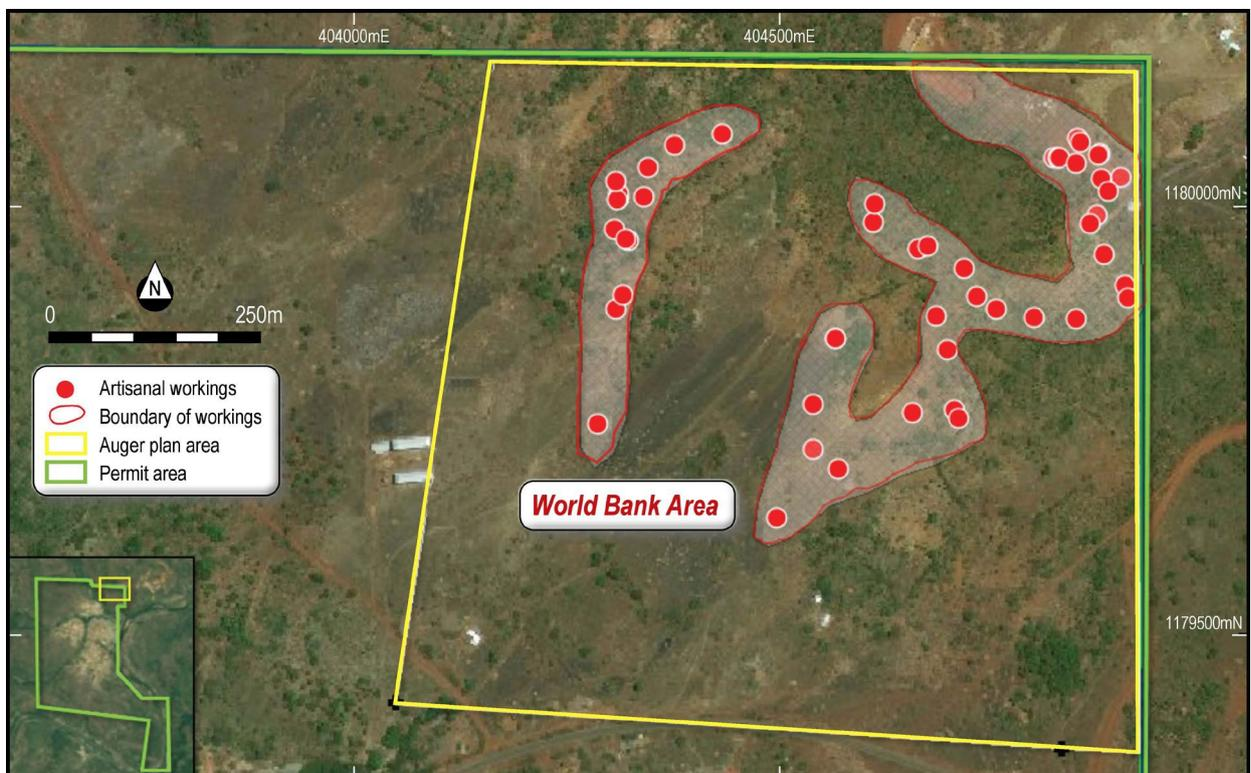

Figure 3. Location of identified artisanal workings on the Kouroussa permit.
The photos below are of artisanal workings and Figure 3 below shows the location of identified artisanal workings on the Kouroussa Permit.
**Kouroussa Permit.** Sahara and Volt teams will continue collecting grab samples in the artisanal workings area known as the “World Bank”. Following sampling and assay, an auger drilling geochemical sampling program will be undertaken in the area highlighted in Figure 3.